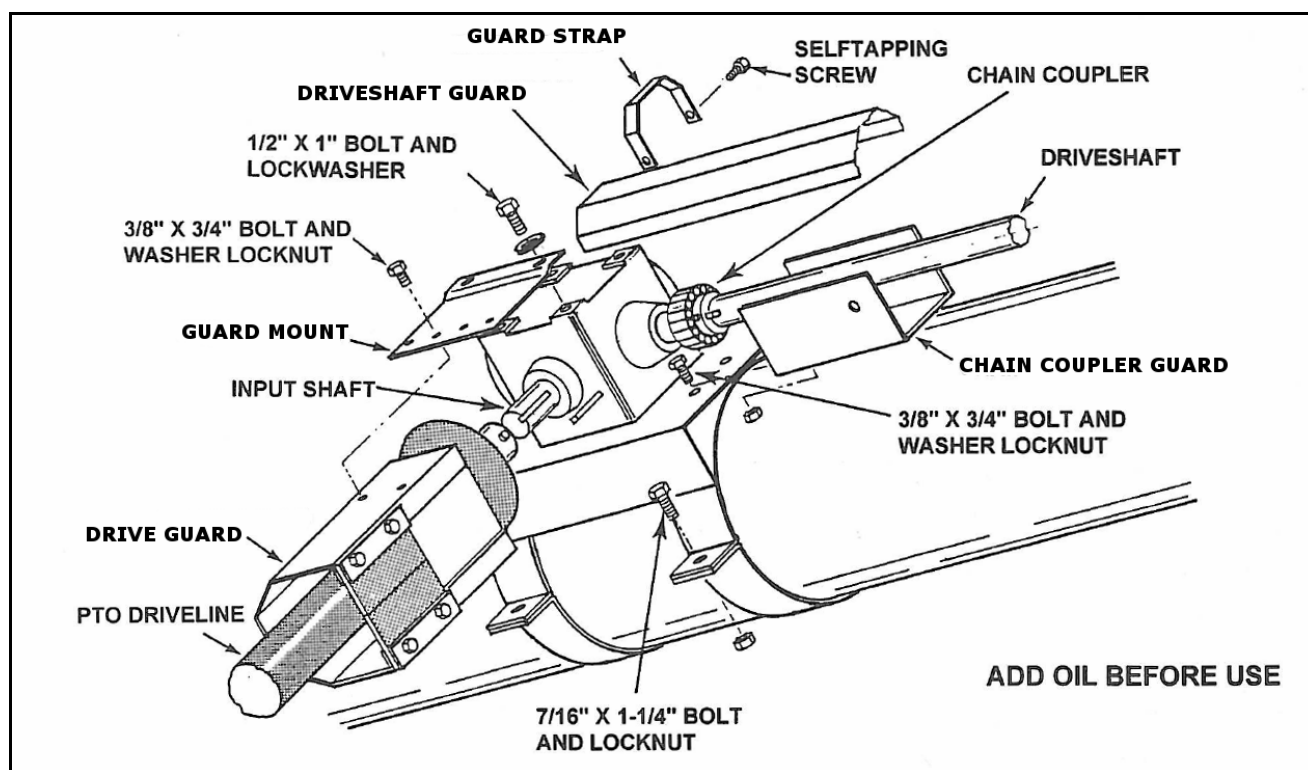

Figure 3.7
See Figure 3.7.
6. Attach the chain coupler guard to gearbox base with two 3/8" x 3/4" bolts and washer locknuts (Figure 3.7).
9. Attach the drive shield to the shield mount with two 3/8" x 3/4" bolts and washer locknuts, then slide this assembly over PTO driveline and attach to gearbox with two 1/2" x 1" bolts and lockwashers (Figure 3.7).
1. Place driveshaft shield against gearbox and over chain coupler guard, then secure with a guard strap and 2 self-tapping screws (Figure 3.7).